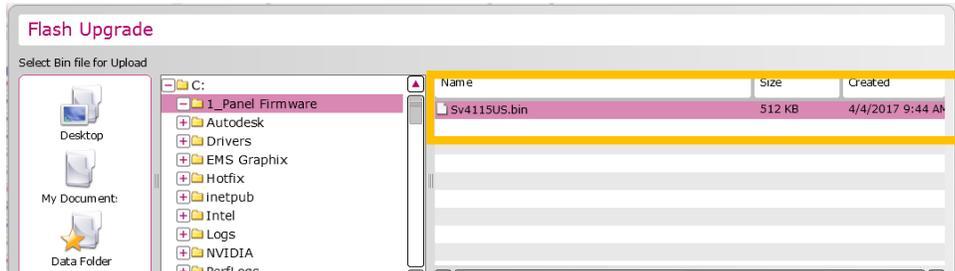

Figure 1.5
3.4 Firmware files that are located in the selected folder will display to the right of the 'Browse to' area. Click on the appropriate firmware file to highlight it. (see figure 1.5)